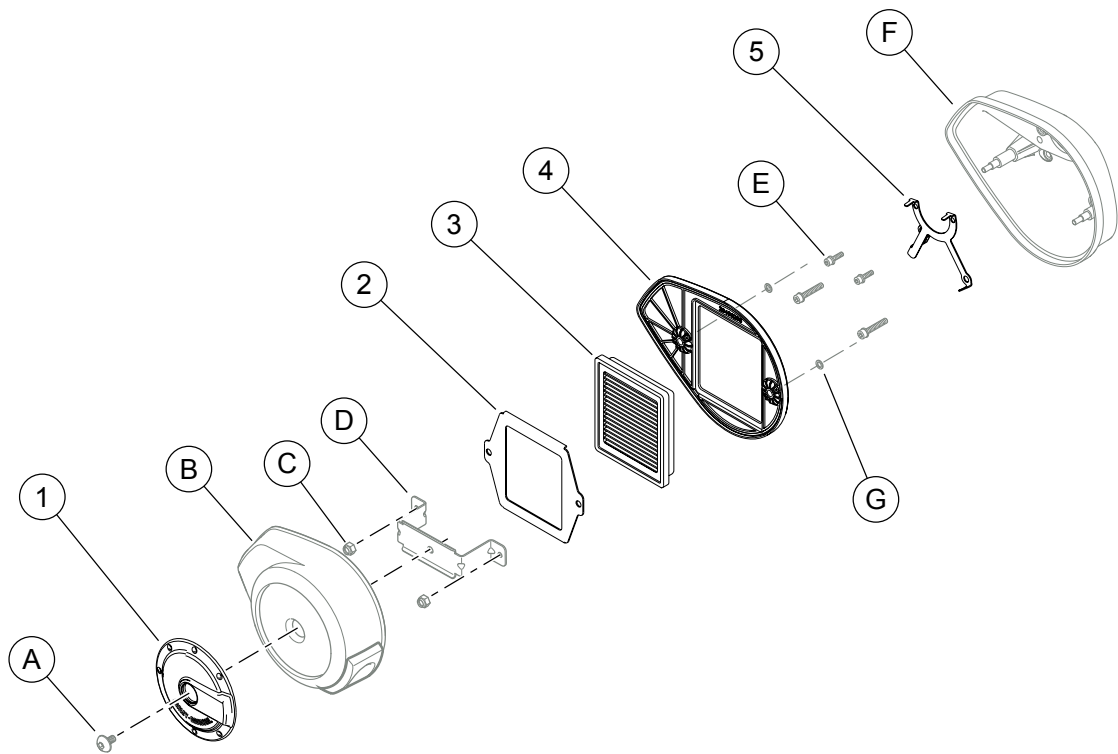

Figure 2. Service Parts: Screamin' Eagle Air Cleaner Kit
See Figure 2 and Table 1.
1. See Figure 2. Install original backplate (F) and screw retainer plate (5).
- a. Secure screw retainer plate and OE backplate to throttle body with OE screws (E).
- b. Secure screw retainer plate and OE backplate to engine crankcase with OE screws (E).
See Figure 2. Verify seal washers (G) are in place and in good condition.
3. See Figure 2. Install filter and retainer. Install with original bracket (D) and nuts (C). Tighten to 6–8 N·m (54–70 in-lbs).